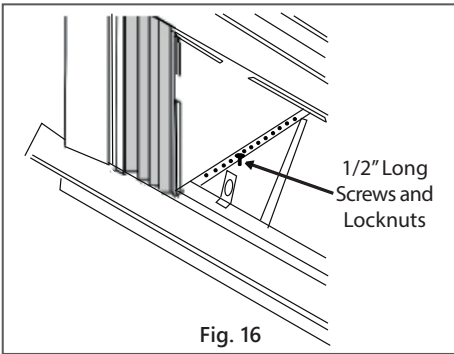

Fig. 16
- C. Install support brackets (with sill angle brackets attached) to correct hole in bottom of cabinet as shown in Fig. 16.